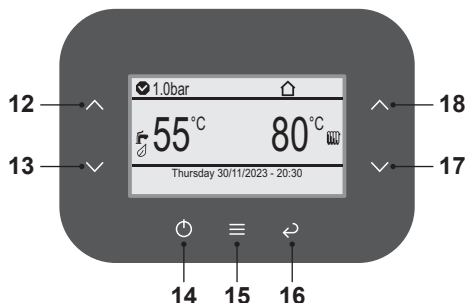

Fig. 2.18
The D.H.W. temperature is adjusted using keys 12 and 13 (Fig. 2.18) or by changing the Set manual value in the DHW Settings menu.
The DHW setting can be temporarily changed by entering a manual value using keys 12 and 13 (Fig. 2.18).
- Press key 15 (Fig. 2.18) to access the main menu (Fig. 2.19).
- Press key 12 or 13 (Fig. 2.18) to select the desired menu (Fig. 2.20).
- Press key 15 (Fig. 2.18) to access the selected menu (Fig. 2.21).
- Press key 12 or 13 (Fig. 2.18) to select the desired menu from those available (Fig. 2.22).
- Press key 15 (Fig. 2.18) again to highlight the value to be changed.
- Press key 17 or 18 (Fig. 2.18) to set the desired value.
- Press key 15 (Fig. 2.18) to confirm the change or key 16 to exit without changing the value (return to previous level).